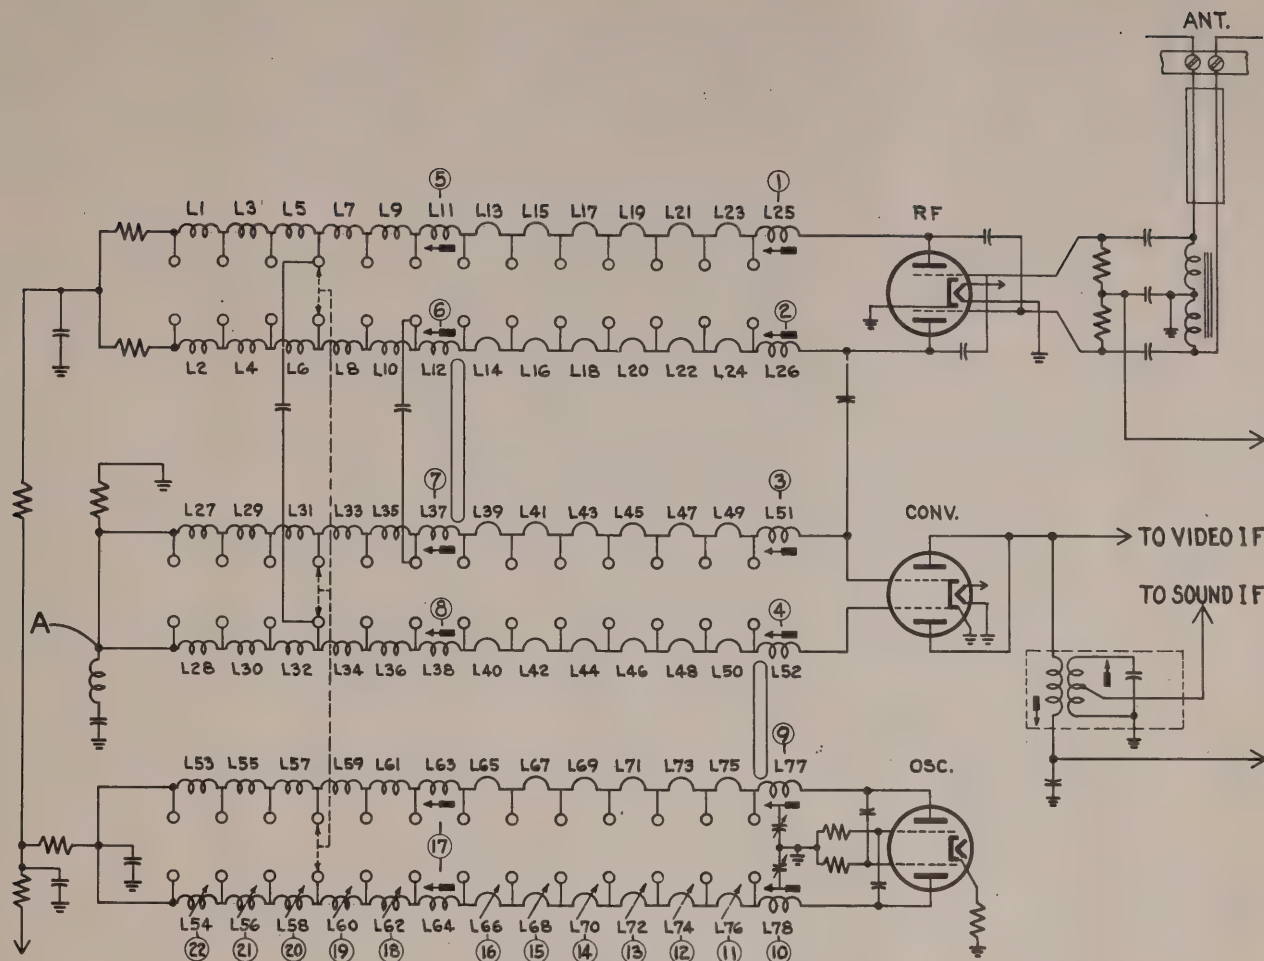
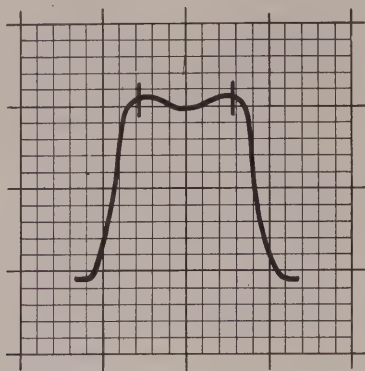

FIG. 15 TYPICAL TV TUNER
FIG. 16 TV TUNER RESPONSE
Fig. 15 shows one type of TV Tuner and will be used as an example of tuner alignment. The design of this tuner requires that the high frequency channels be adjusted first and since channel 7 presents the narrower response it is adjusted first.
1. Connect the SIGNAL INPUT Cable of the Model 479 between point A (Fig. 15) and ground through a 10,000 ohm carbon resistor.
7. Using markers at the above frequencies adjust L25, L26, L51, and L52 (Points 1, 2, 3 and 4 Fig. 15) for a curve of maximum height approximating that of Fig. 16. This curve normally appears somewhat overcoupled with a 10 to 15% dip at the center with the markers at approximately 90% of maximum response. The markers should never fall below the 70% point.
4. Adjust L77 and L78 (points 9 and 10 Fig. 15) to a point where the 400 cycle pattern on the oscilloscope disappears and then reappears as the adjustment is continued in the same direction. Leave the adjustment at the EXACT NULL point. It may
5. Adjust each lower channel in turn, setting the Generator frequency for the Sound Carrier frequency of each successive channel and adjusting for Null indication on the oscilloscope. This includes steps 11 through 22 of Fig. 15.